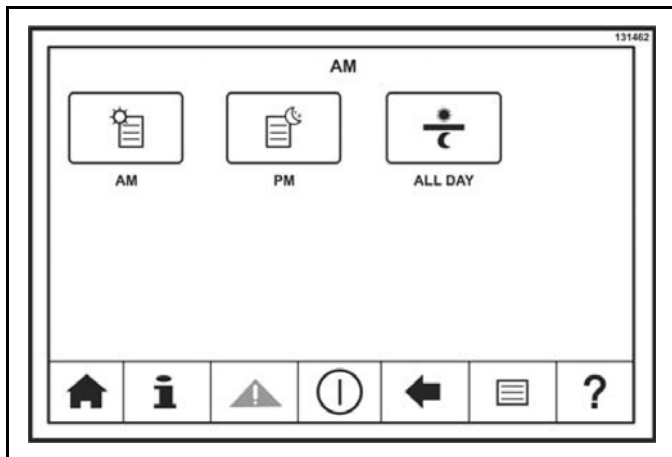

Figure-32
17. Choose AM, PM, or ALL DAY. See Figure-32.